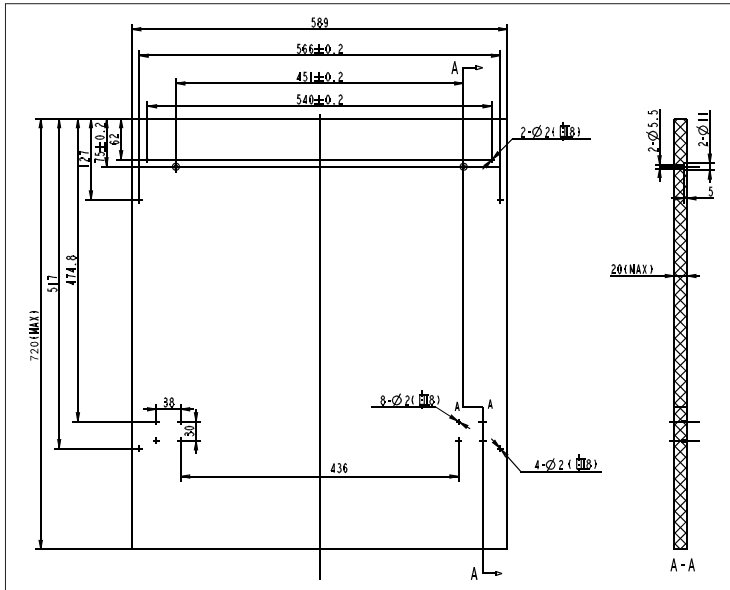

Fig. 15
- The dimensions and location of holes on the cover plate are shown in Fig. 15. The dimensions are given in mm.